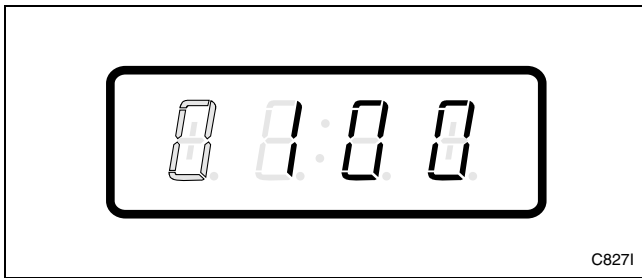

Figure 27
6. Press the START (enter) keypad to enter the fifth digit and display remaining four digits. The active digit will flash one second on and one second off. Refer to *Figure 27*.